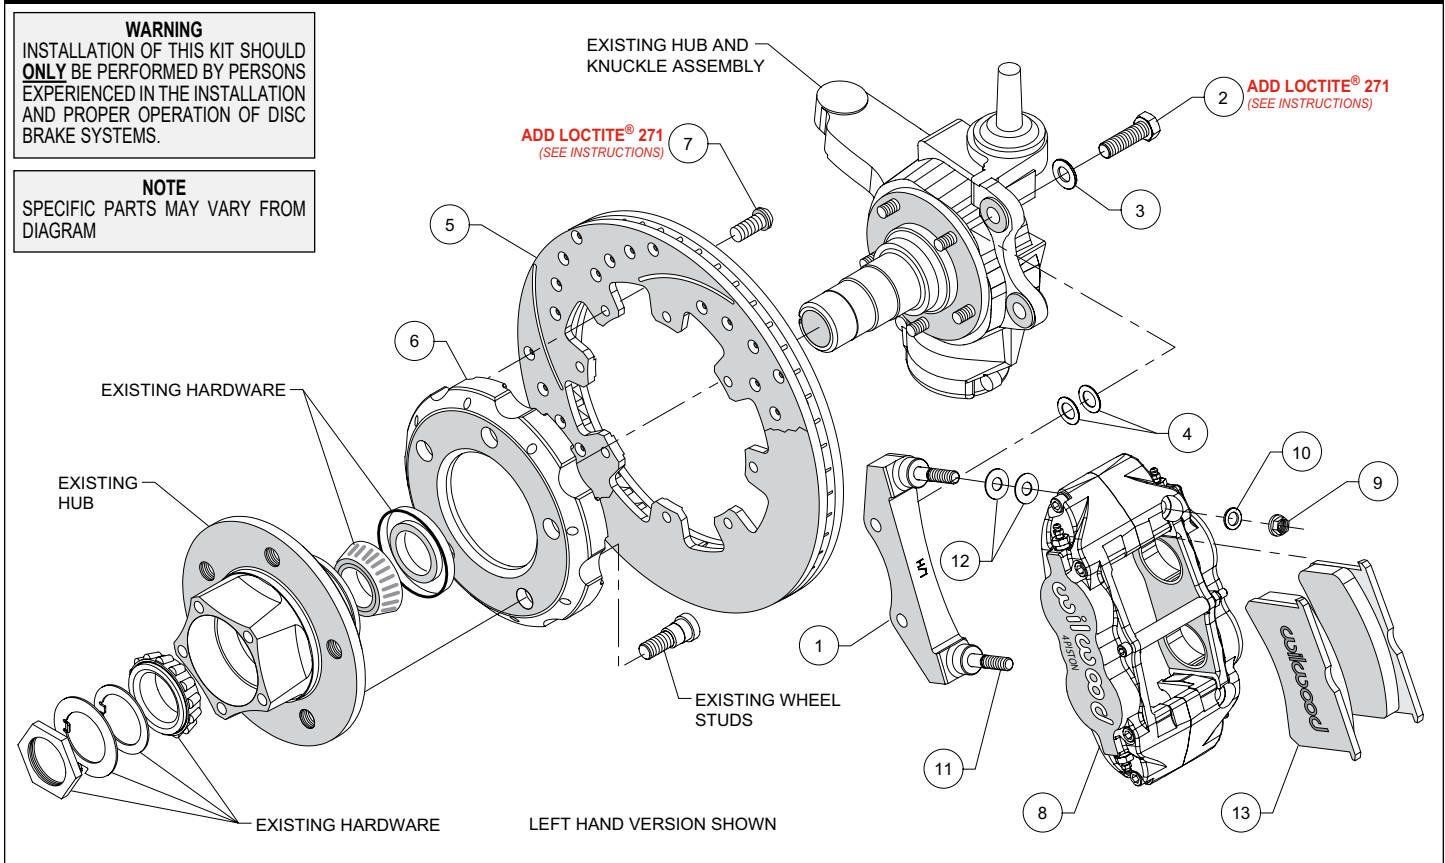

Figure 1. Typical Installation Configuration
Assembly Instructions (numbers in parenthesis refer to the parts list and Figure 1 on the preceding pages):
- The caliper mount bracket (1) should initially be installed with clean, dry threads on the mounting bolts. Orient the bracket as shown in Figure 1 and Photo 2 and install using bolts (2) and washers (3). Initially place two .032" thick shims (4) on each bolt between the bracket and upright, Figure 1. Temporarily tighten the mounting bolts. Brackets are labeled R/H and L/H, be sure to install the correct bracket on the applicable side, Photo 2. **NOTE:** *The bracket must fit squarely against the mount bosses on the upright.* Inspect for interference from casting irregularities, machining ridges, burrs, etc. Later, after the caliper alignment has been checked, the mount bolts will be secured using red *Loctite*[®] 271.
- Orient the hat (6) and the OEM hub as shown in Figure 1 and Photo 3. **NOTE:** *The hat must fit flush against the axle hub or excessive rotor run out may result.* Press fit the wheel studs (we recommend using new wheel studs) thru the holes in the hat and into the existing hub. **NOTE:** *We recommend this procedure be performed by a qualified machinist.*
- Orient the rotor (5) and the hat/hub assembly as shown in Figure 1 and Photo 4. Attach rotor to hat using bolts (7). Apply red *Loctite*[®] 271 to the bolt threads and torque to 25 ft-lbs using a criss-cross pattern.
- Pack the small outer OEM bearing cone (we recommend using new bearings) with high temperature disc brake bearing grease and install into hub, as shown in Figure 1. Slide the hat/rotor/hub assembly onto the spindle. Secure using OEM spindle washer, spindle nut, and nut lock, Photo 6. Adjust bearings per OEM specifications. Install a new cotter pin (not included).
- Initially place two .035" thick shims (12) on each stud as shown in Figure 1 and Photo 7. Mount the caliper (8) onto the bracket (1) using lock nuts (9) and washers (10), Figure 1 and Photo 8. Temporarily tighten the lock nuts and view the rotor through the top opening of the caliper. The rotor should be centered in the caliper, Photo 9. If not, adjust by adding or subtracting shims (4) between the bracket and the upright. Always use the same amount of shims on each of the two mounting bolts. Once the